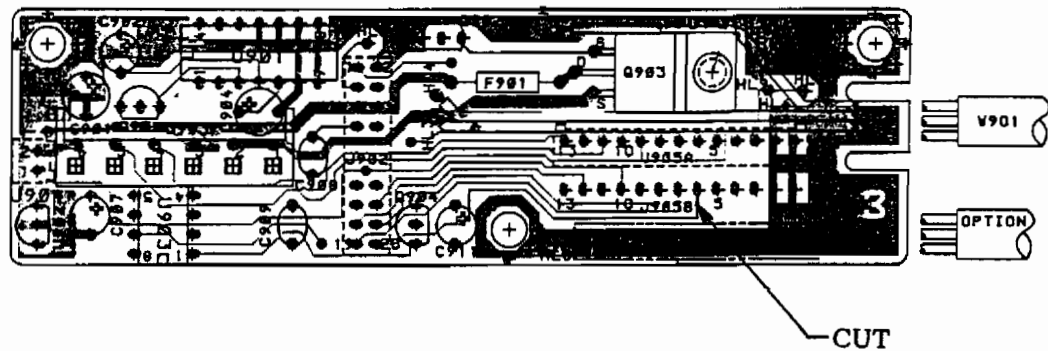

FIGURE 4
1. CUT PATTERN NEAR J905B-6 ON COMPONENT SIDE OF BOARD (SEE FIGURE 4).